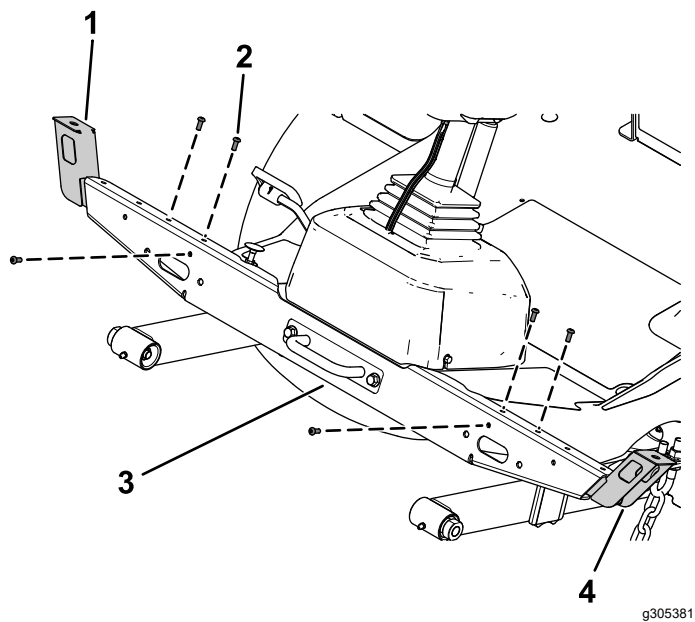

Figure 13
- 3. Secure the left light mount and right light mount to the light cross mount using 3 button-head bolts (1/4 x 5/8 inch) through the speed nuts on each side (Figure 13).